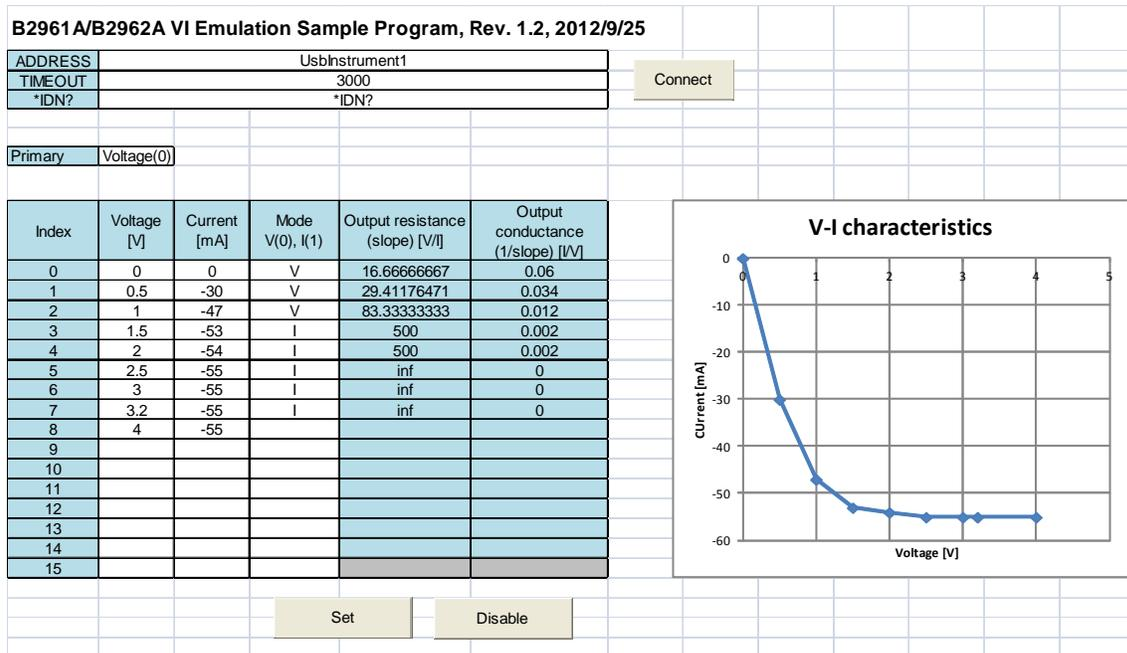

Figure 20 B2961A/B2962A VI Emulation Sample Program settings for I_{OL} emulation
- Primary source mode (B2961A/B2962A front panel Mode setting): voltage (V)
- V and I source values (in emulation table): See Voltage and Current columns in Figure 20.
- V/I mode (in emulation table): See Mode column in Figure 20.